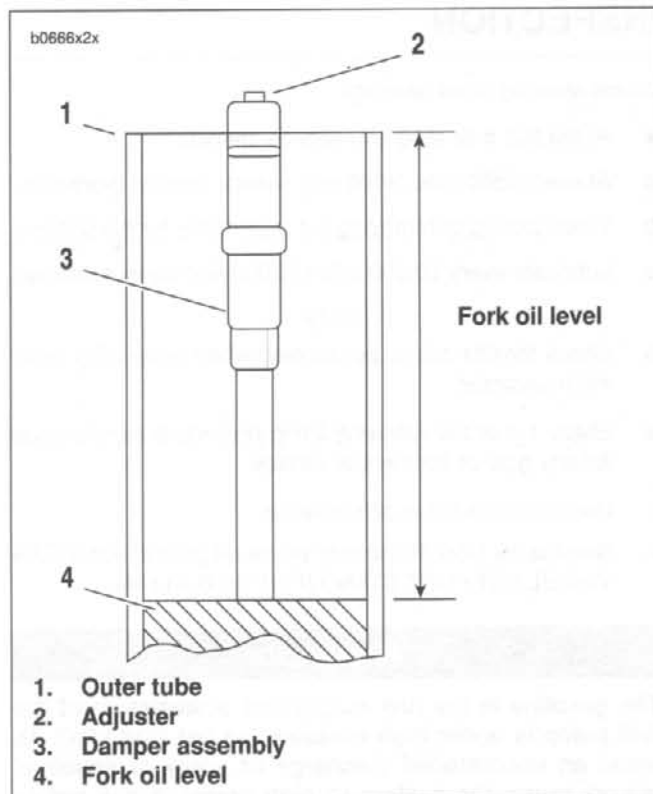

Figure 1-54. Correct Fork Oil Level
3. See Figure 1-54. Pump damper assembly (3) and leg slowly about 10 times, using 6.0 in. (150 mm) strokes.